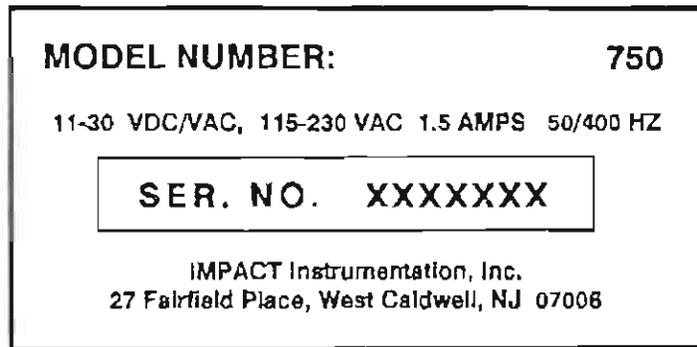
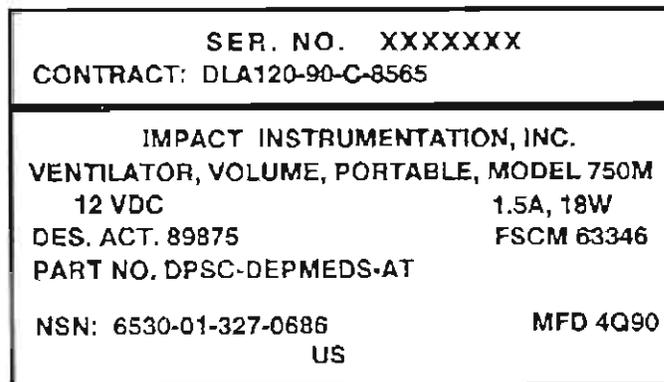

Figure 1-6. Data plate (model 750).
Figure 1-7. Data plate (model 750M).
(1) A manufacturer data plate, located on the back of the ventilator control module, is depicted in either figure 1-6 (model 750) or figure 1-7 (model 750M).